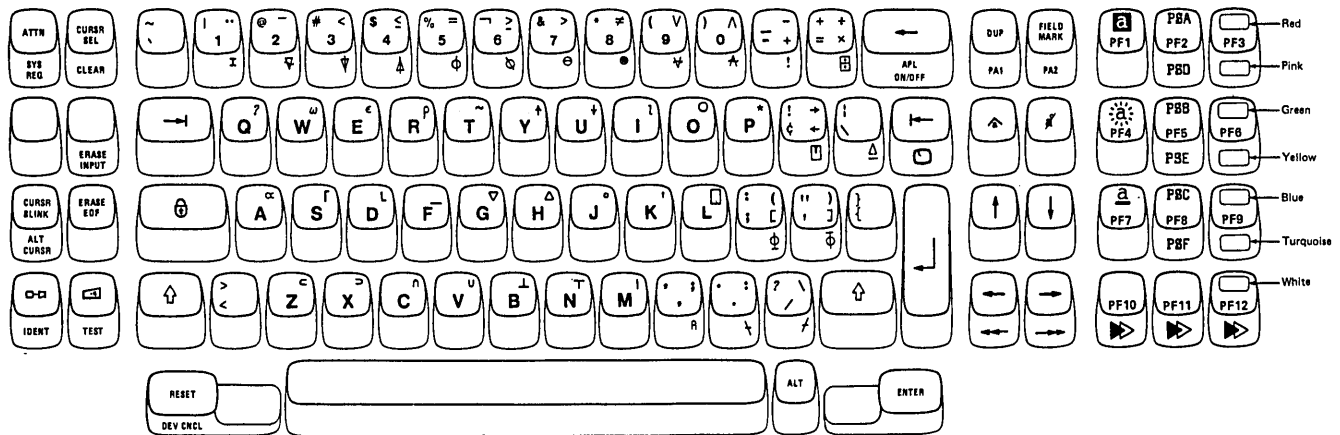

Figure 3-6. Attribute Select Typewriter/APL Keyboard
- The Attribute Select Overlay keyboard (Figure 3-6)